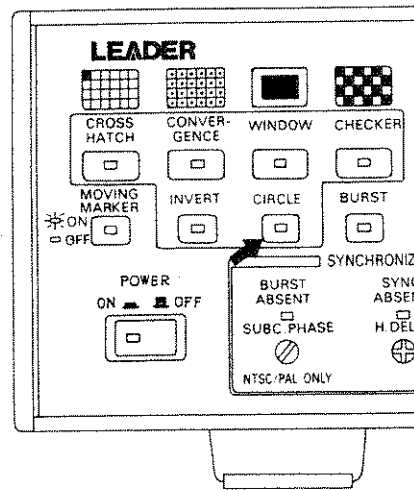

Figure 4.5
4.2.4 Circle Patterns (See Figure 4.5, Table 4.1 and 4.2)